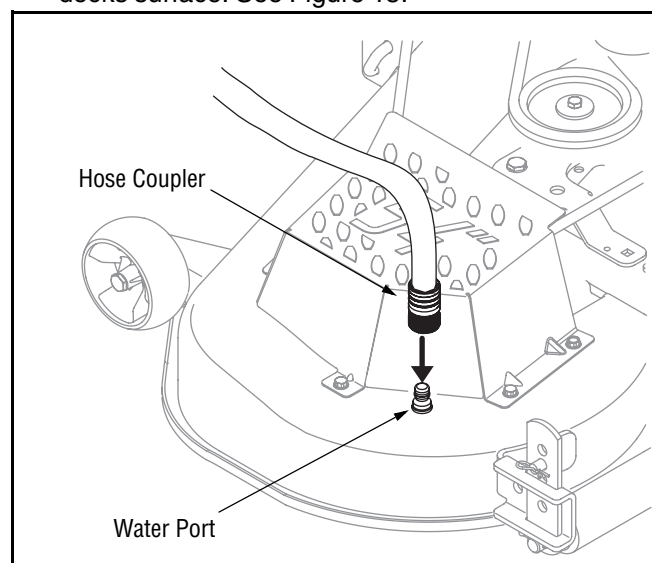

Figure 15
4. Attach the hose coupler to the water port on your decks surface. See Figure 15.